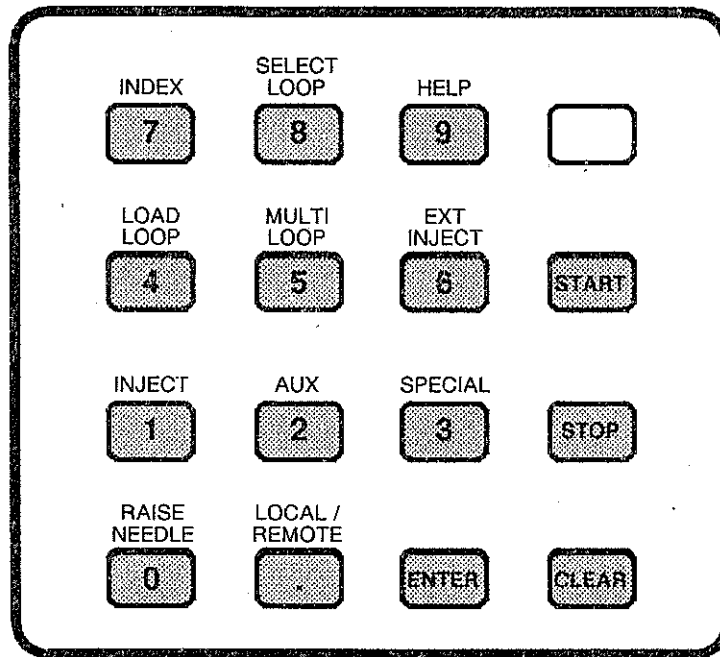

Fig. 7: Keypad
The sixteen button keypad (3), located on the right half of the front panel (see Fig. 2), provides direct communication to the 698 Autosampler. The keypad operates in two modes, the DIALOGUE mode and the FUNCTION mode. Fig. 7 details the keypad.